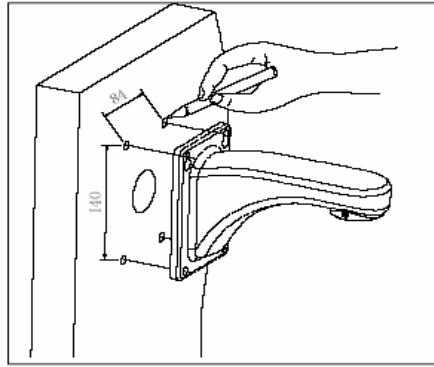

Fig 2
a. As shown in fig 2, with the installation holes in the underside of the wall hanging bracket as pattern, draw punched locations and punch.